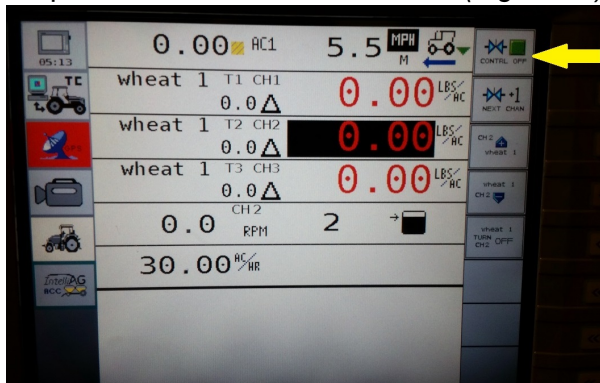

Figure 37
Step 12. Turn **Control Channel** off (Figure 37)